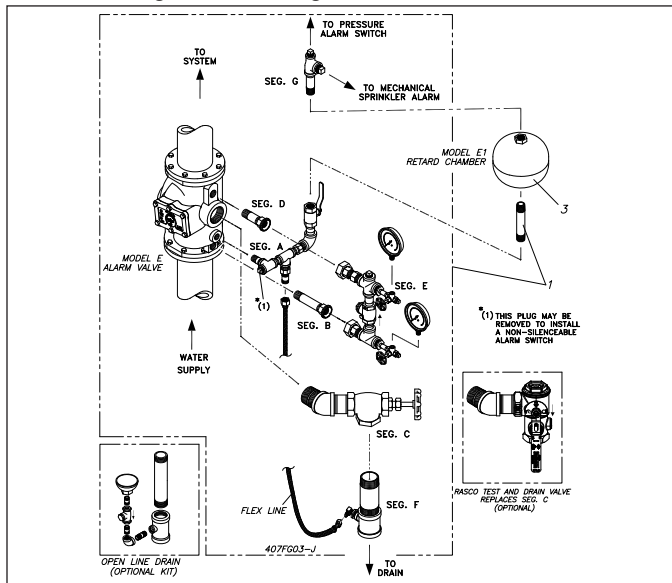
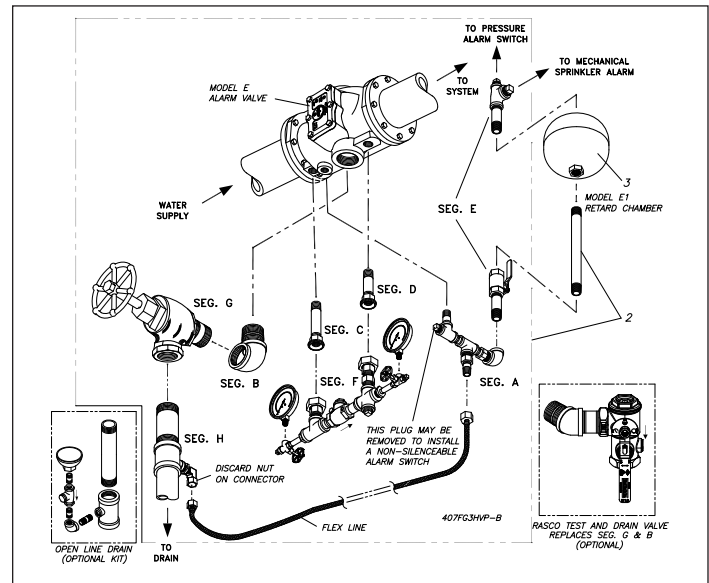

Fig. 3 Variable Pressure Vertical Installation
Fig. 5 Variable Pressure Horizontal Installation
7. Install Segment "F" leak tight by wrenching on the 2" (50mm) tee. Orientate the tube fitting towards the back of the alarm valve. Connect Item 26 (alarm line drain port) to Item 27 in the drain line using the flex tubing provided (Item 11). Note: the tubing should be free of kinks. Note: An open line drain kit segment is optional, to be purchased separately, as a replacement to seg. F (Fig. 3) & Seg. H (Fig. 5).
Variable Pressure (Figs. 3 & 5)
- **Horizontal Installation (Figs. 5, 6 & 8)**
Follow a sequence similar to that given above for vertical installation, and refer to Figs. 5 & 6 for illustration.
The movement of Clapper (4) on Hinge Pin (8) uncovers the groove in Seat (3) and allows water to flow through the groove into the Alarm Line Outlet and to the Alarm Line, Fig 5.